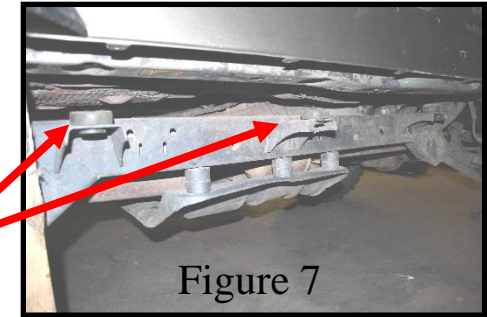
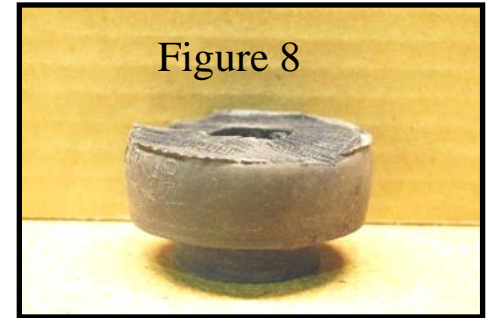

Figure 7
Figure 8
Step 6 - Remove the two body mount bushings that are shown in Figure 7. Remove the metal cap washer from bushing before trimming. You will need to trim about 1/8" off the top of the rubber body mount bushings, to allow for the steel thickness of the Rock Slider. (See Figure 8: Trimmed rubber bushing)